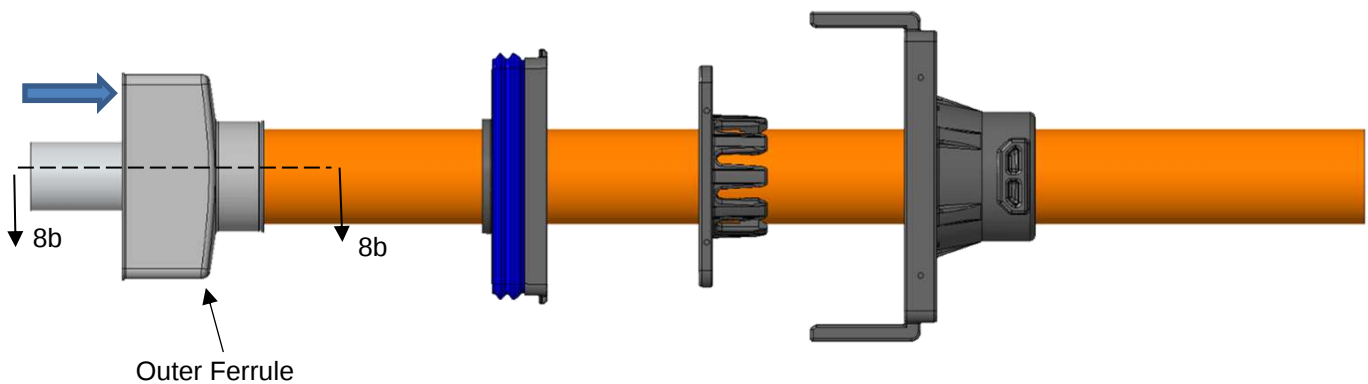

Figure 8a: Slide the outer ferrule over the folded back braided cable shield
5. Insert an outer ferrule onto cable in the orientation shown and over the inner ferrule and folded back braided cable shield. See Figure 8a.